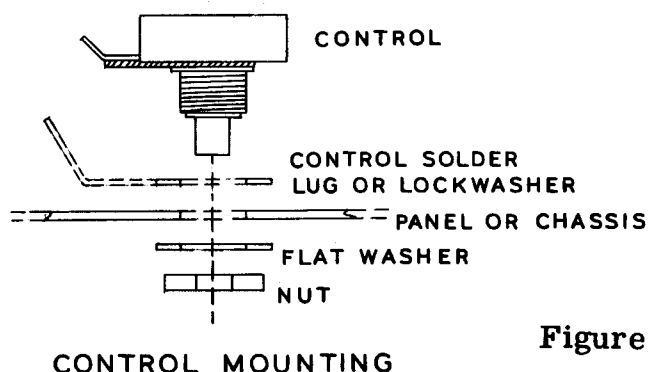

Figure 10
- () Install the 300 Ω "Bass-Bal" control at D. Follow Figure 10 for assembly details and orient terminals as shown in Figure 8.